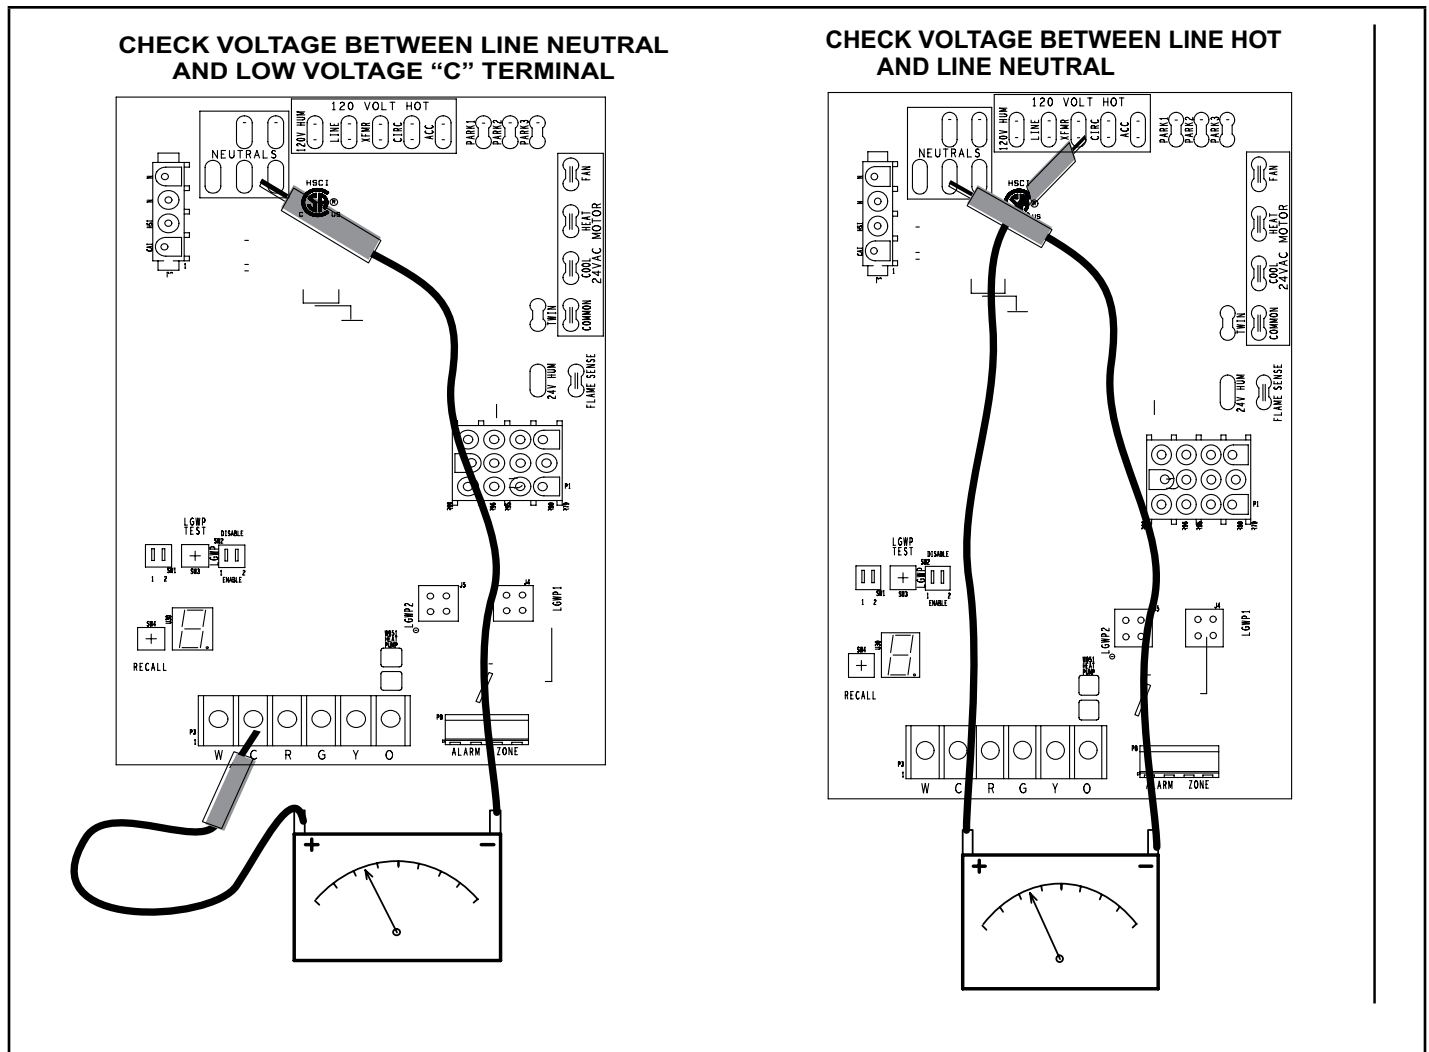

FIGURE 60
- 1 - Measure the AC voltage between Line Neutral (spade terminals) and "C" terminal (low voltage terminal block) on the integrated control. See FIGURE 60. A wide variation in the voltage between Line Neutral and "C" as a function of load indicates a poor or partial ground. Compare the readings to the table below. If the readings exceed the maximum shown in TABLE 20, make repairs before operating the furnace.
- 2 - In addition, measure the AC voltage from Line Hot to Line Neutral (spade terminals) on the integrated control. See FIGURE 60. This voltage should be in the range of 97 to 132 VAC.